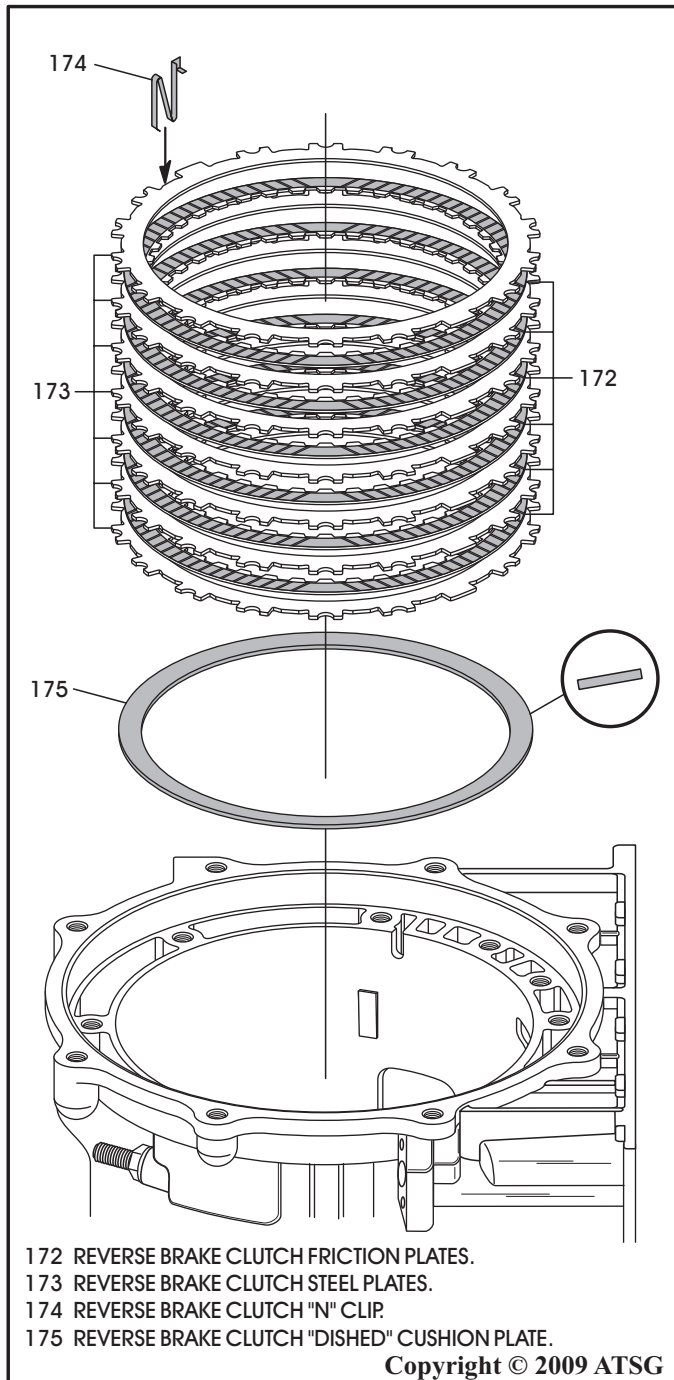
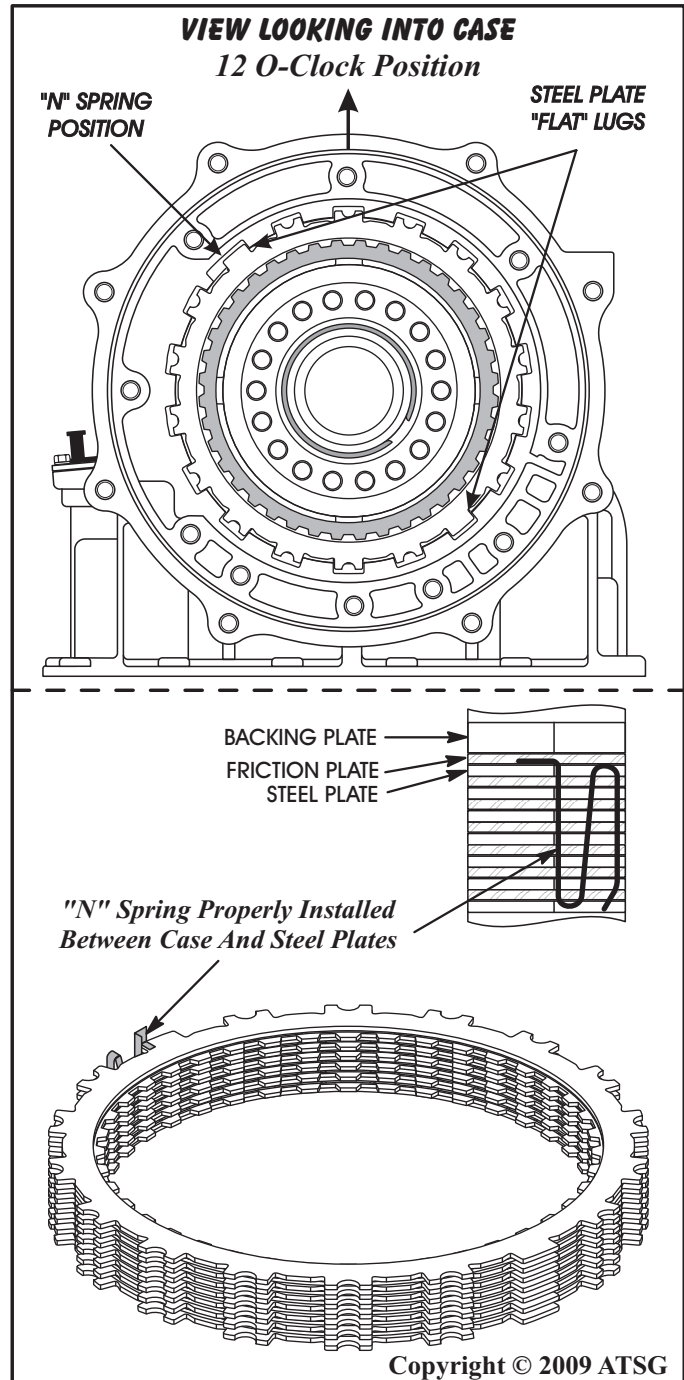

Figure 203
Figure 204
30. Install reverse brake clutch "dished" cushion plate, as shown in Figure 203.
31. Install reverse brake clutches beginning with a steel plate and alternating with friction plates, as shown in Figure 203.
Note: All clutch plates should be soaked for 30 minutes in proper fluid before assembly. The steel plates have two "flat" lugs that must be oriented in case as shown in Figure 204. "Do Not" yet install the last friction.
32. Install the "N" spring between the steel plates and the case, as shown in Figure 203 and 204. *Note: The small tab should rest on top of the last steel plate, as shown in Figure 204, after installation.*